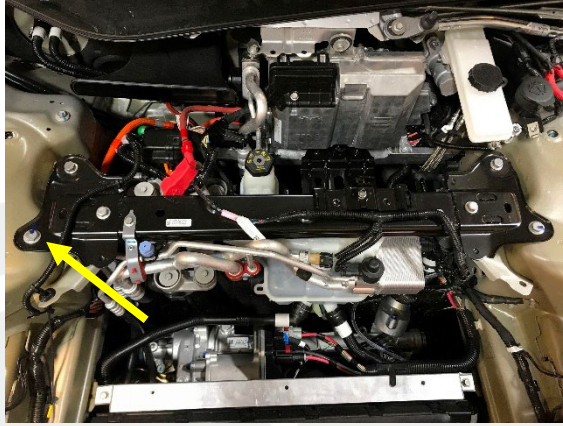

Figure 1
3. Loosen the forward RH shock tower brace bolt (Figure 1).